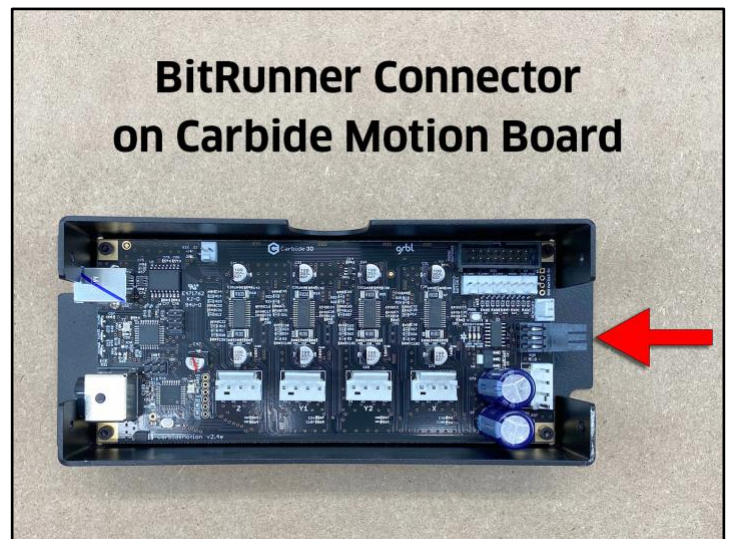

Figure 4
3. Insert the USB/power end of the board into the enclosure first. The USB and power ports will slightly protrude from the **BACK** (left) of the enclosure. The 6-pin BitRunner connector protrudes from the **FRONT** (right). See *Figure 4*.
4. Use an SAE  $\frac{3}{32}$ -inch hex key and the four (4) existing socket head cap screws to secure the new Carbide motion board to the enclosure.
5. Use a 4mm hex key and two (2) M6x12mm button head cap screws to attach the Carbide Motion board enclosure to the Y1-rail with the USB and power ports at the **BACK** and the 6-pin BitRunner connector at the **FRONT**.
6. Reconnect the three (3) homing/proximity switch cables and four (4) stepper motor extension cables.